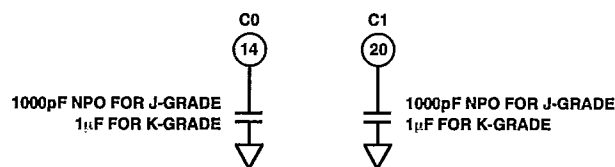

Figure 18. AD1849 External Filter Capacitor Connections
Figure 18 illustrates signal-path filtering capacitors, C0 and C1. Note that the values recommended here for the *J-Grade* AD1849, 1000 pF NPO, will increase to 0.1 μ F for the *K-Grade* AD1849. Make plans for the PC board layout to accommodate the larger capacitor value. *The AD1849J must use 1000 pF capacitors; the AD1849J silicon will not perform properly with 0.1 μ F capacitors. The AD1849K must use 0.1 μ F capacitors; the AD1849K silicon will not perform properly with 1000 pF capacitors.*
- The Analog Devices *K-Grade* AD1849 uses two external capacitors to complete its internal input filter as shown in Figure 18. The CS4215 calls the two pins on the AD1849 for these capacitor connections, "no connects." By laying out a board with these capacitors, either chip will work.
- Related to the above, the Analog Devices *J-Grade* AD1849 uses two external capacitors to complete its internal input filter as shown in Figure 18. The CS4215 calls the two pins on the AD1849 for these capacitor connections, "no connects." By laying out a board with these capacitors, either chip will work.